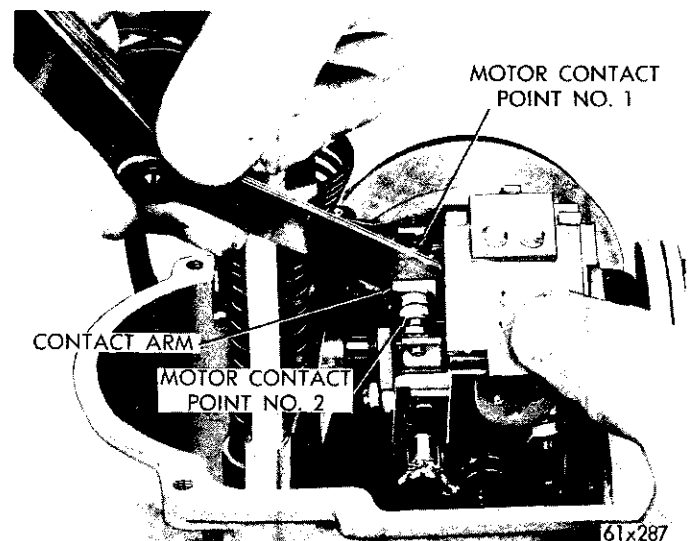

Fig. 14—Measuring Clearance between the Motor Contact Point #1 and the Contact Arm
(11) With the contact arm point against the motor contact point #2, check the clearance between the motor contact point #1 and the contact arm (Fig. 14). The clearance must be .050" to .070".
(12) To adjust, loosen the lock nut on the motor contact point #1 and adjust with a screwdriver .050" to .070" clearance. Retighten the lock nut.
(13) Turn the ignition "OFF." Replace the green wire. Connect the drive cable and recheck the accelerator linkage adjustment. Replace the Auto-Pilot cover.